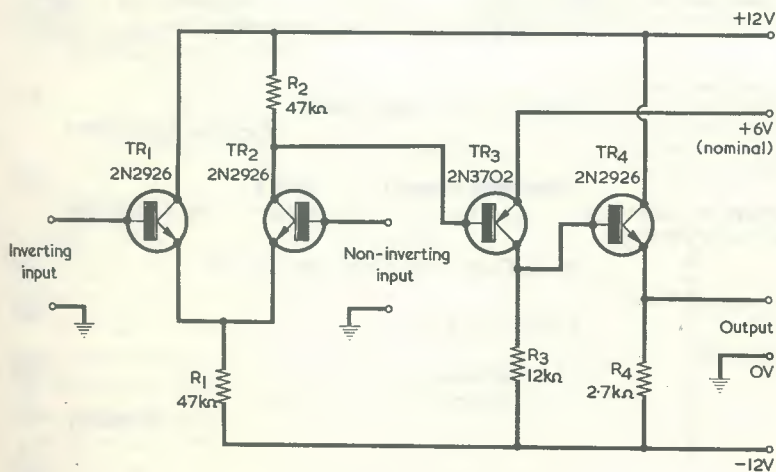
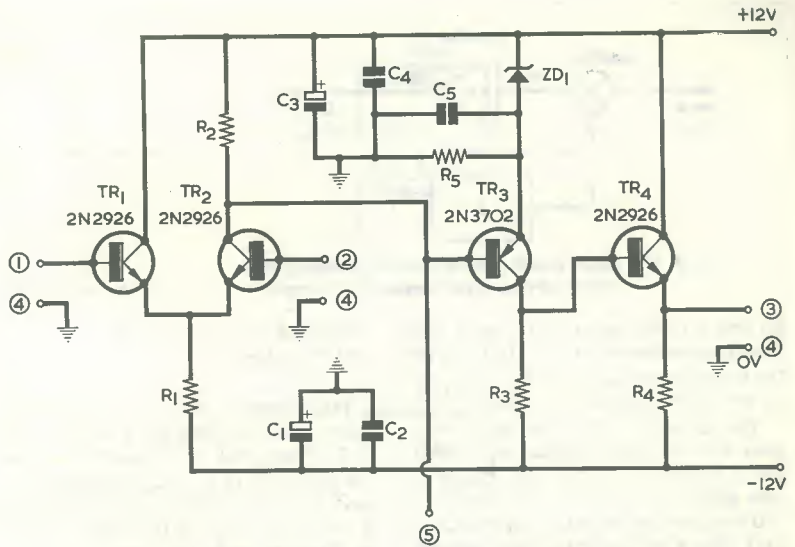
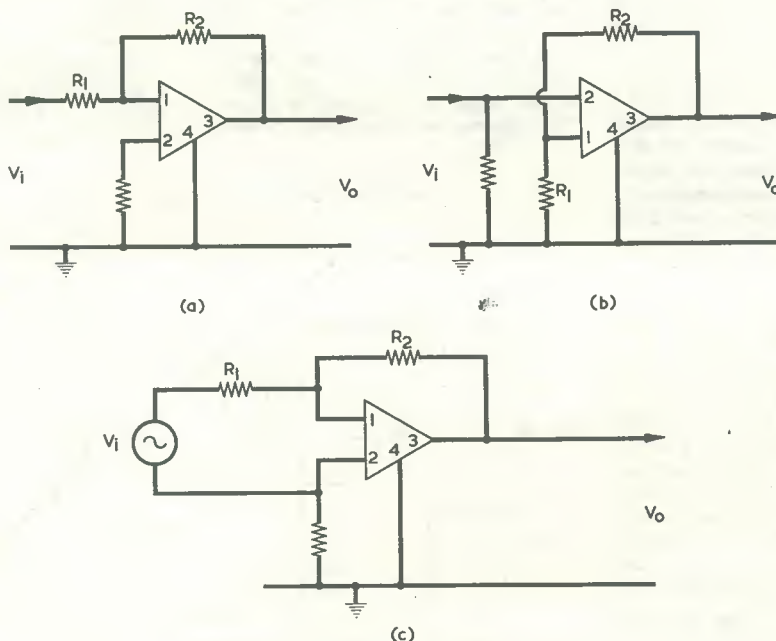

Fig. 1. The basic amplifier circuit diagram
Fig. 2. The complete practical circuit for the amplifier. This is the diagram referred to in subsequent amplifier circuit arrangements
Fig. 5 (a). Inverting amplifier circuit
amplifier is shown in Fig. 1, and it consists of a differential pair input stage, TR1 and TR2, followed by a common emitter stage, TR3, and emitter follower output, TR4. D.C. conditions are arranged so that inputs and outputs are at earth potential, and external negative feedback can be used from the output back to the inverting input to set gain and d.c. conditions. Since the amplifier has unity gain at 10 Mc/s it is advisable to decouple the supply lines at the board (or chassis) on which it
The practical version of Fig. 1 is shown in Fig. 2, and this incorporates the nominal 6V supply and decoupling components just mentioned. All the circuits which follow in this article are based on the amplifier of Fig. 2. It will be noted that a single 12V supply is required, and that this is "floating" with respect to earth. Total consumption from the 12V supply is of the order of 5mA.
Typical performance figures for the amplifier of Fig. 2 are:—
In our case the feedback network will take the form of a voltage divider to the inverting input, and Fig. 5 shows the arrangements for (a) inverting amplifiers, (b) non-inverting amplifiers, and (c) differential amplifiers. In each instance the amplifier of Fig. 2 is indicated by the amplifier block symbol, the numbers in the block indicating the connections to terminals (1), (2), (3) and (4).
5 (a), gain is  $\frac{R_2}{R_1}$  and input impedance is  $R_1$ . Fig. 5 (b) shows the non-inverting arrangement and gain is  $\frac{R_2}{R_1} + 1$ . The differential input amplifier arrangement of Fig. 5 (c) gives a gain of  $\frac{R_2}{R_1}$ .